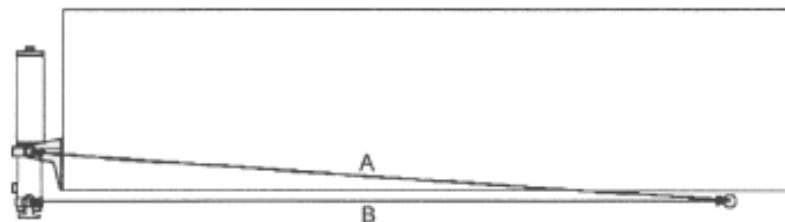

Figure 1: Suspension tube type cylinder mounting (dimensions to pin centerlines)
- For suspension tube type cylinders, we recommend dimensions ‘A’ and “B” should be within 2mm of each other for adequate operation (refer to Figure 1). This will require the hoist to be tilting towards the tray in applications where the tray pivot is low.